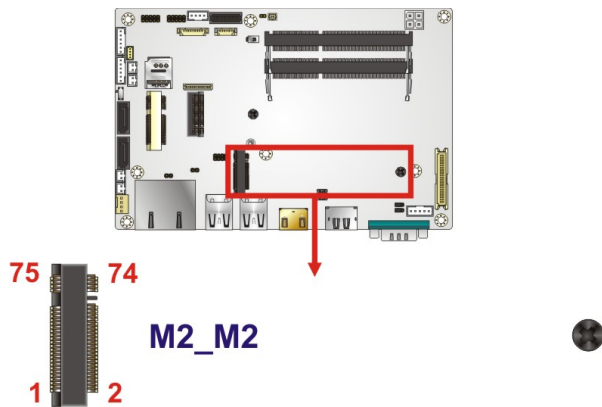

Figure 3-12: M.2 M-key Slot Location
- CN Location:** See **Figure 3-12**